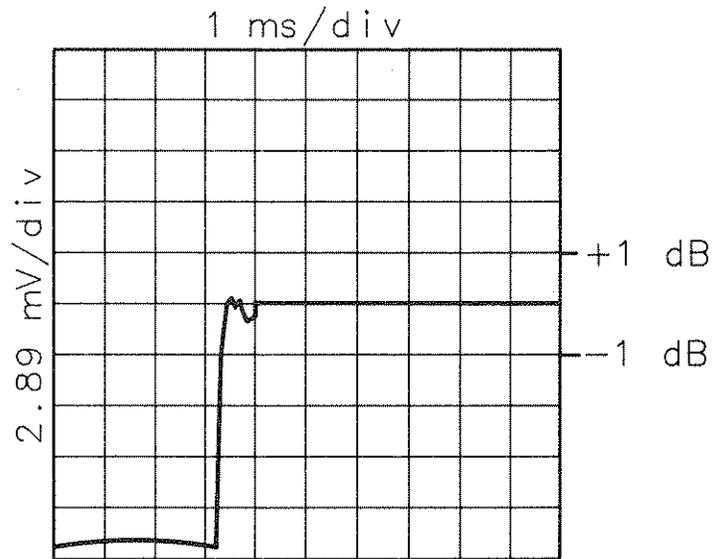

Figure 4-25. Level Switching Time Measurement Waveform
11. Rerun the program entered in step 9 by executing the command "RUN 100." Press the digitizer key on the oscilloscope when instructed to by the program. The oscilloscope should digitize the switching waveform with greater detail. The waveform should now look like that shown in Figure 4-25.
12. Measure the level switching time by observing the digitized signal on the oscilloscope display. The external trigger is the reference for determining switching speed. The switching time is measured from the display's left graticule to the last point that the signal is more than ± 1 division from the middle horizontal graticule. Refer to Figure 4-25. Record the level switching time.